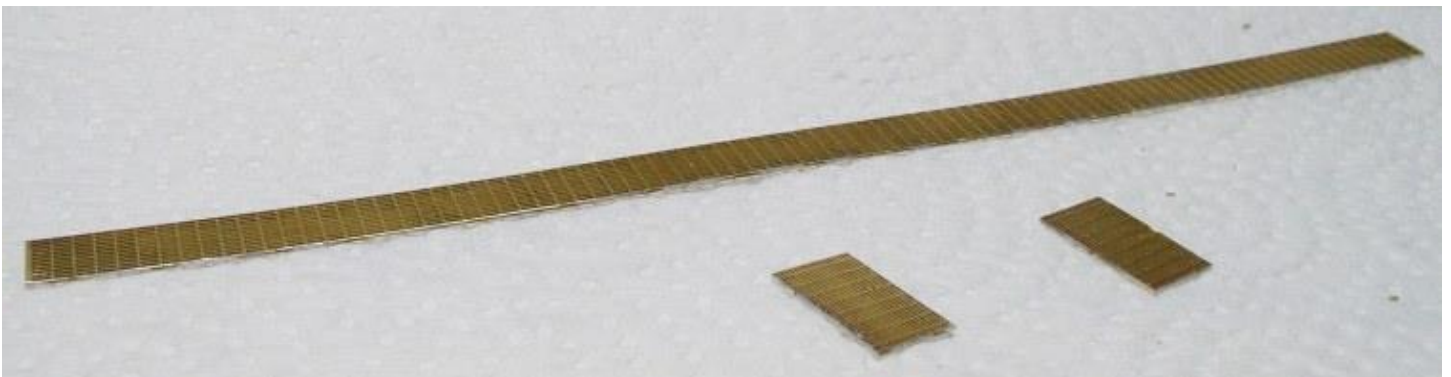

Figure SRB2
2. Run a light bead of solder along the edges of the running boards. Use a rotary tool with a cut-off disc to remove any tabs that are remaining. File the edges. See Figure SRB2